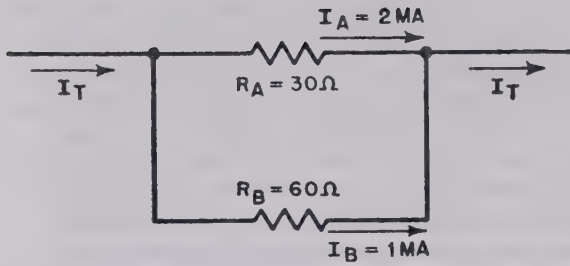

Figure 19. Computing resistance and current for a parallel circuit.
- (2) To compute the values of ring shunts, the mathematical relationship between parallel resistors and current must be understood. In figure 19, R_A is 30 ohms, R_B is 60 ohms, and they are in parallel. If a total current of 3 ma is flowing in the circuit, 30/90 or one-third of the current will flow through the 60-ohm resistor (higher value in ohms) and 60/90 or two-thirds of the current will flow through the 30-ohm resistor (lower value in ohms). The current of 2 ma in the smaller resistor, R_A , is twice the amount of current flowing in R_B . There is the same ratio between one branch current and total current as there is between the opposite branch resistance and the sum of the two branch resistances (R_T). That is,